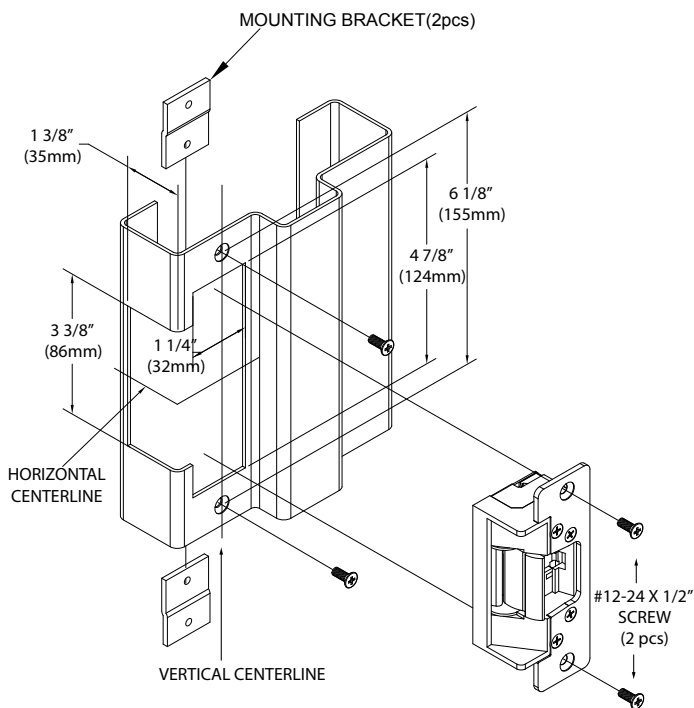

Figure 4.1 Hollow Metal Frame Installation (CX-ED1410)
Option 1 Hollow Metal Frame Installation (Figure 4.1 & 4.2)
- If the ANSI Frame jamb/gate does not match the electric strike size, refer to Steps 3 to 8 and Figure 4.1 or 4.2 to cut the jamb if applicable.